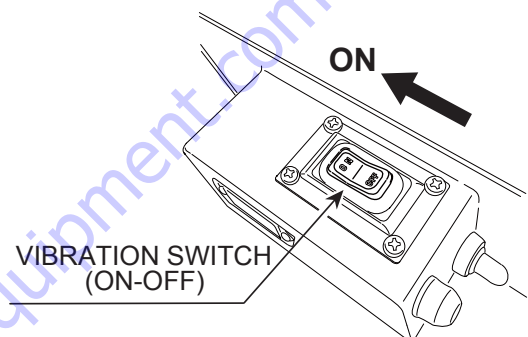

Figure 16. Vibration Switch
1. Shift the vibration switch from off to on position. The roller will start vibrating (Figure 16).